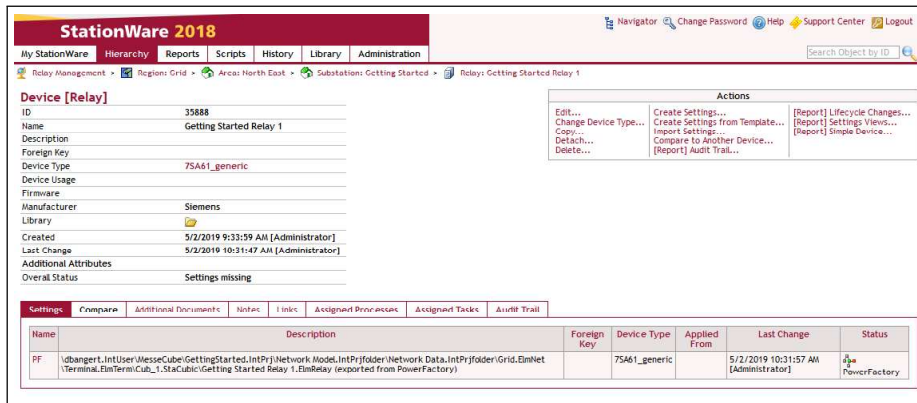

Figure 24.13.15: Device detail page
- Navigate to the relay detail view of the *Getting Started Relay 1* relay (see Fig. 24.13.15)